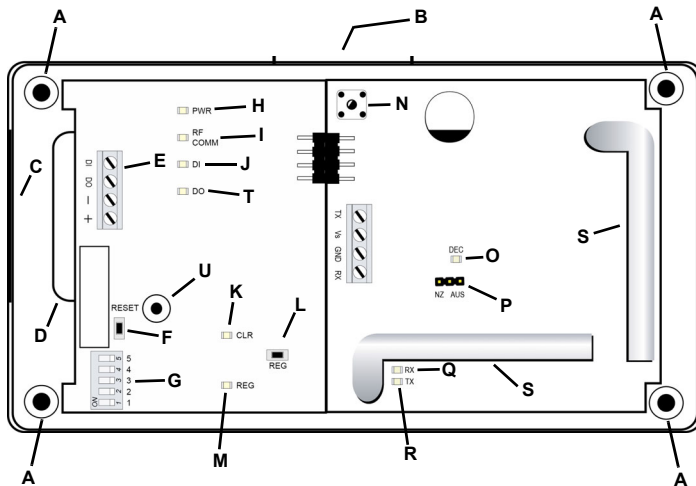
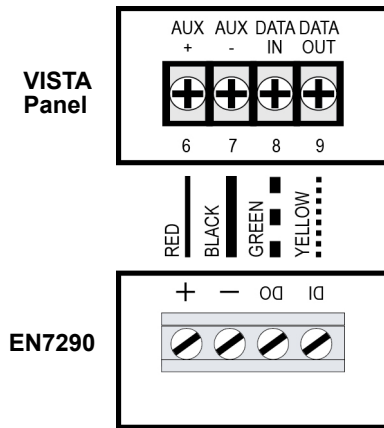
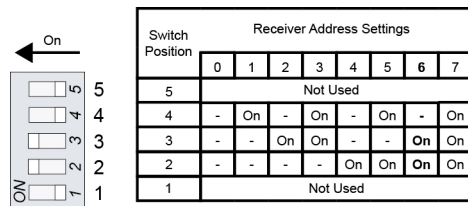
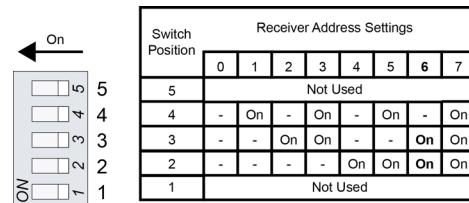

Figure 3 EN7290 receiver/interface internal components
Figure 4 EN7290 receiver/interface to VISTA panel cabling
Figure 5 Device address DIP switch settings (6 shown)
Figure 7 Device address DIP switch settings (0 shown)
1. Referring to Figure 4, connect one end of a length of cabling to the EN7290 receiver/interface positive (+) screw terminal (figure 3, E); connect the other end to screw terminal 6 on the VISTA control panel.
3. Connect one end of a length of cabling to the EN7290 receiver/interface data out (DO) screw terminal; connect the other end to screw terminal 8 on the VISTA control panel.
4. Connect one end of a length of cabling to the EN7290 receiver/interface data in (DI) screw terminal; connect the other end to screw terminal 9 on the VISTA control panel.
- Referencing Figure 5, set the device address DIP switches to an unused address (figure 3, G).
- Referring to Figure 4, connect one end of a length of cabling to the EN7290 receiver/interface positive (+) screw terminal (figure 3, E); connect the other end to screw terminal 5 on the Safewatch Pro 3000 control panel.
- Connect one end of a length of cabling to the EN7290 receiver/interface data out (DO) screw terminal; connect the other end to screw terminal 6 on the Safewatch Pro 3000 control panel.
- Connect one end of a length of cabling to the EN7290 receiver/interface data in (DI) screw terminal; connect the other end to screw terminal 7 on the Safewatch Pro 3000 control panel.
- Referencing Figure 7, set all device address DIP switches to the off position, indicating an address of 0, for the Safewatch Pro 3000 (figure 3, G).
1. Toggle the housing tamper switch to ensure the receiver/interface is ready to enter registration mode (figure 3, N).
2. Referring to Figure 3, "EN7290 receiver/interface internal components" on page 2, press the registration button (figure 3, L).
5. When all devices have been registered, press and release the housing tamper switch (or replace the housing). You can also press the reset button to exit registration mode (figure 3, F).